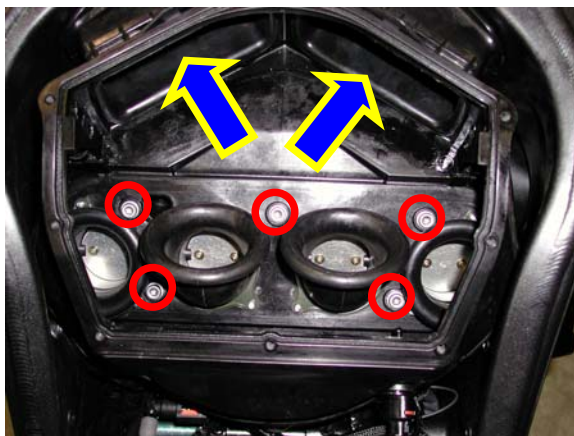

Figure 21: the Airbox
- remove the screws red circled in **Figure 21**.
- pull back the black lateral pipe unions, highlighted by two blue/yellow arrows in **Figure 21**.